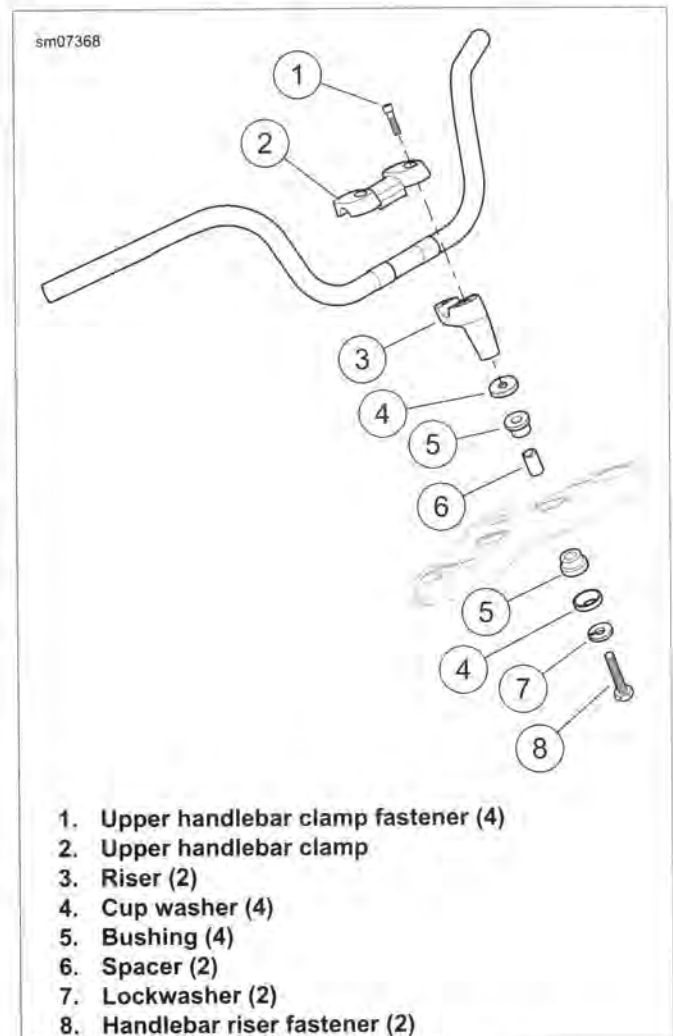
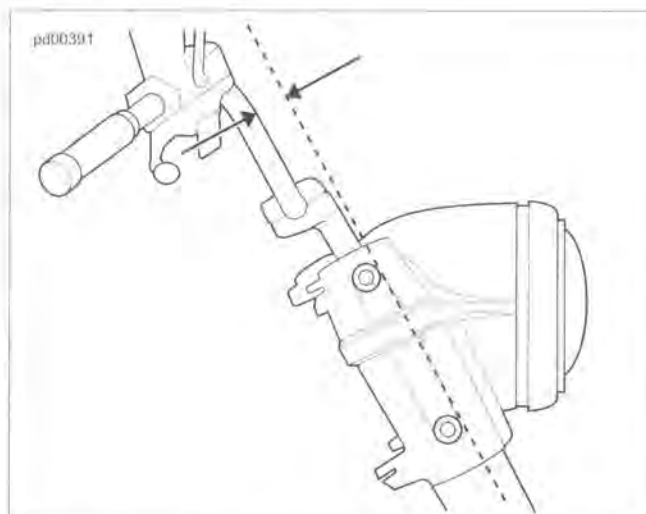

Figure 2-121. Handlebars: FLD
Figure 2-122. Handlebar Adjustment: FLD, FLD103
See Figure 2-121. If removing risers, loosen handlebar riser fasteners (8) before removing upper handlebar clamp.
9. Remove upper handlebar clamp fasteners (1).
10. Remove upper handlebar clamp (2).
12. If removing risers (3), remove two handlebar riser fasteners (8), lockwashers (7) and risers from upper fork bracket.
13. Replace bushings (5) if necessary.
1. See Figure 2-121. If risers (3) were removed, install lock-washers (7) on handlebar riser fasteners (8).
3. Place handlebars on risers. Install upper handlebar clamp (2) but do not tighten upper handlebar clamp fasteners (1).
5. See Figure 2-122. Place a straight edge across the windshield bushings.
8. See Figure 2-121. Secure handlebars in clamp:
- a. Tighten two rear fasteners (1) until cast-in spacers contact risers.